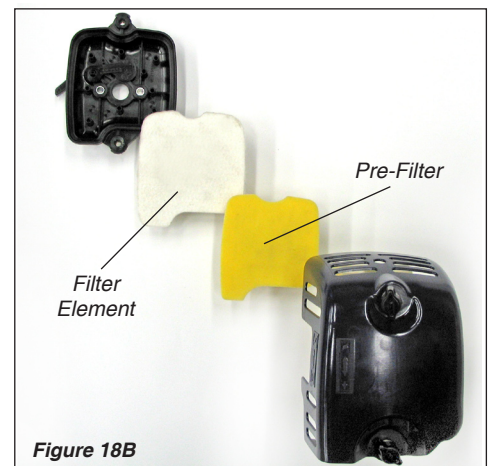

Figure 18B
2. Remove and inspect the pre-filter. If the pre-filter is torn or otherwise damaged, replace it with a new one. See Figure 18B.